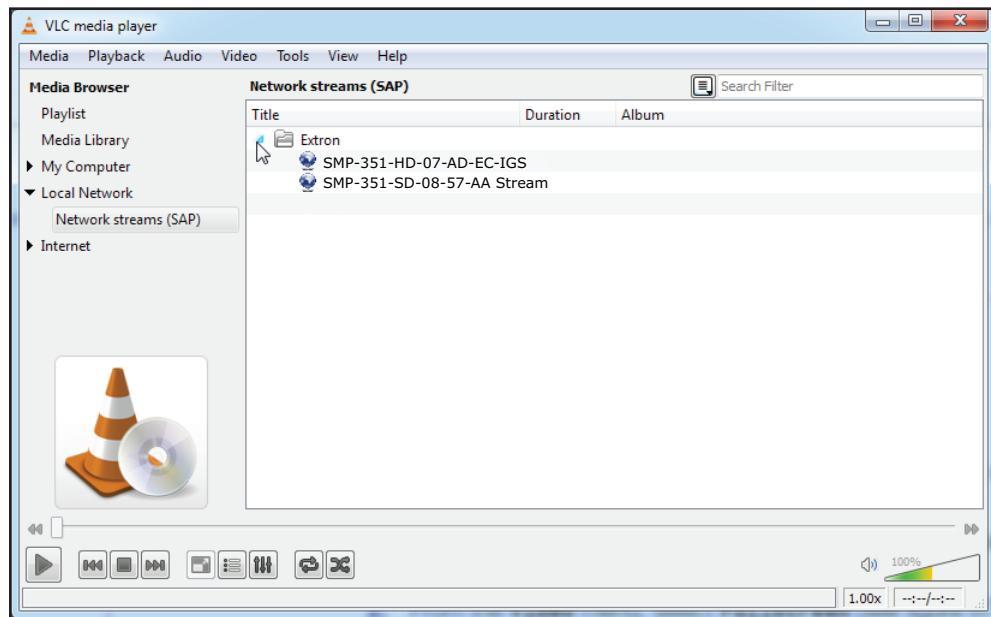

Figure 83. VLC - Select a Stream
- VLC populates the playlist with all streams that contain SAP information. If a folder is shown, open it to view the SAP streams inside (see figure 83).